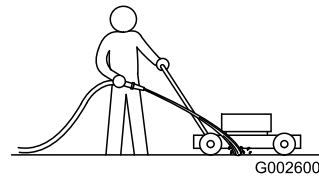

Figure 18
3. With the engine running and the blade engaged, spray a stream of water in front of the **right**, rear wheel (Figure 18).